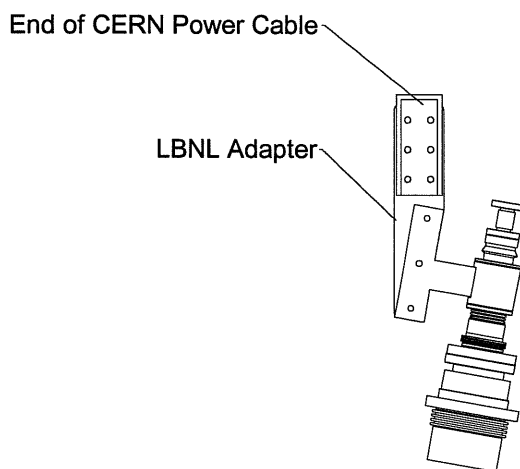

Figure 5.11. Warm End Termination.
- 5.11** Attach the copper bus bar adapter provided by LBNL as shown in Figure 5.11 to allow eventual connection to the CERN power converter. Bolts are to be provided by CERN. It is recommended to use Penetrox-E or equivalent material in the joint to promote good electrical conductivity.
6.10 Hookup the high-current power cables to warm terminals as indicated in Fig 5.11. Use Penetrox E or equivalent material in the joint to promote electrical conductivity.